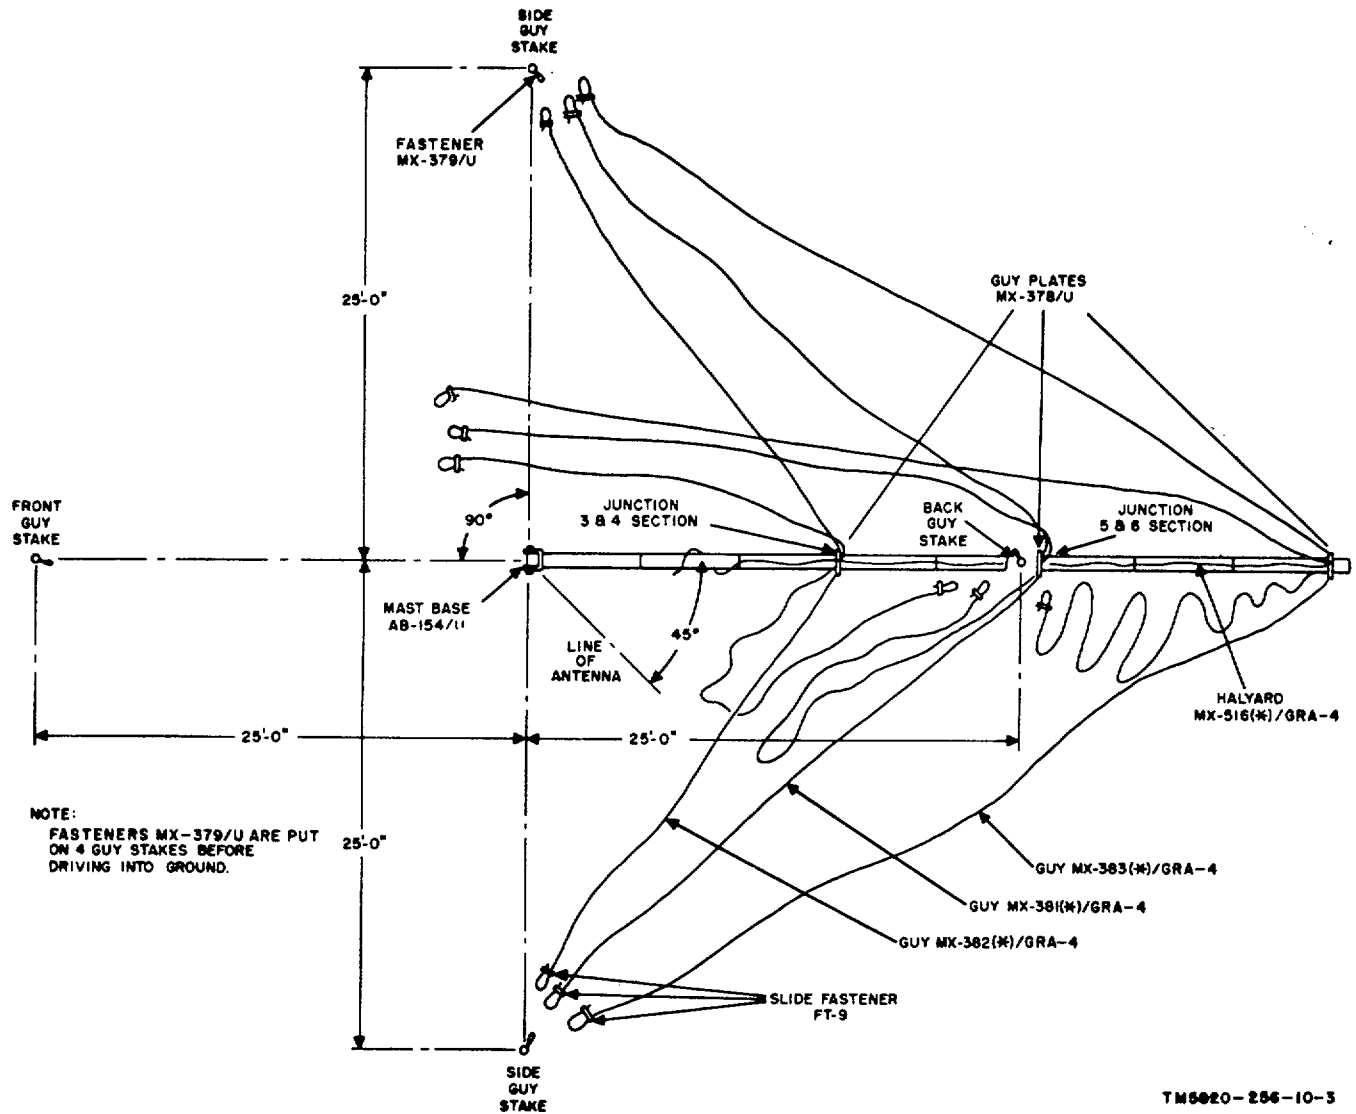

Figure 2-3. Preparing Mast AB-155(*)U for erector
- (2) Drive the stake of Mast Base AB-154/U into the ground at the desired mast location with the swivel end pointing 45° from the line of the antenna (fig. 2-3). If the ground is soft or sandy, place the mast base plate (fig. 2-5) on the ground and push it down firmly; then drive the stake of Mast Base AB-154/U through the hole in the mast base plate.
- (3) Align the female ends of Mast Sections MS-44-(*) toward the mast base. Connect the first mast section (fig. 2-3) to Mast Base AB-154/U; add the second and third mast sections. Place a Guy Plate MX378/U over the third
(4) Slip a Guy Fastener MX-379/U over each guy stake before it is driven into the ground. Drive a guy stake (back guy stake) into the ground at the junction of the fifth and sixth MS44-(*) (25 feet from Mast Base AB-154/U). Place the front and side guy stakes 90° apart as shown in figure 2-3. Use a guy rope to measure the distance between the mast base and the front and side guy stakes. If the ground is soft or sandy, use the wooden stakes instead of the aluminum stakes, and loop the guys over the stakes.
(5) Fasten four Guys MX-383(*)/GRA4 to top Guy Plate MX-378/U, four Guys MX381(*)/GRA-4 to center Guy Plate MX-378/U, and the remaining four Guys MX-382(*)/GRA4 to bottom Guy Plate MX-378/U. Fasten the guys by snapping the fastener at the end of each guy into one of the four holes located 900 apart on the MX-378/U. Next, carry the free ends of the three back guys to a side guy stake to measure their correct length, Fasten these guys to the back guy stake with Guy Fastener MX379/U. Connect both sets of side guys to their respective side guy stakes, and remove slack by adjusting Slide Fastener FT-9 (fig. 2-3). Do not overtighten because the mast may bend. Keep the three front guys together, and stretch them along the mast toward the front guy stake.